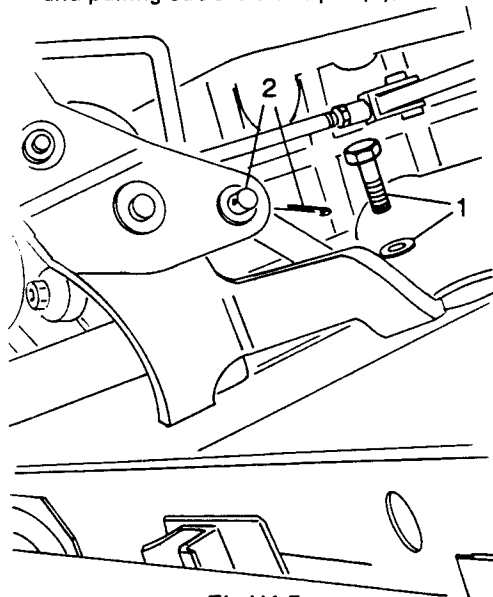

Fig H1.5
- (8) Refer to Fig H1.5. Remove the brake lever fixings (1) and the relay fixings (2).
- (9) Remove the brake lever and the relay mechanism.
- (10) Disconnect the speedometer cable from the gearbox (see Sub-sub-section H1.3, Chapter 19).